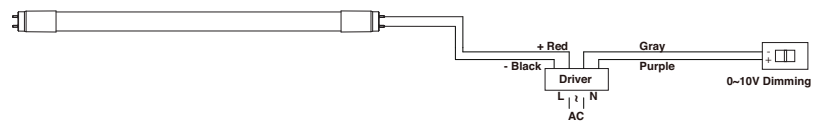

Figure 2a
**Step 8:** For single-ended wiring, please see **Figure 2a, 2b, 2c or 2d**.